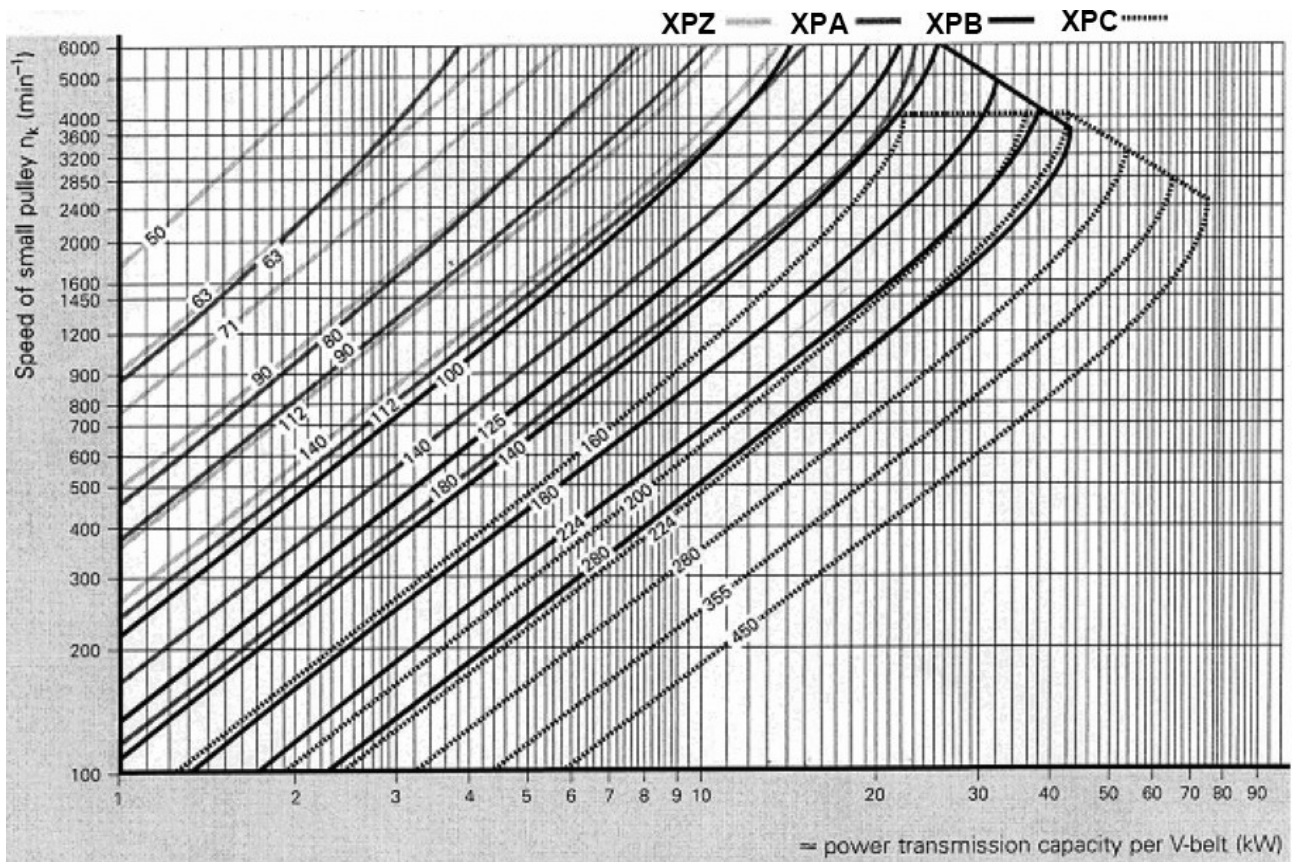
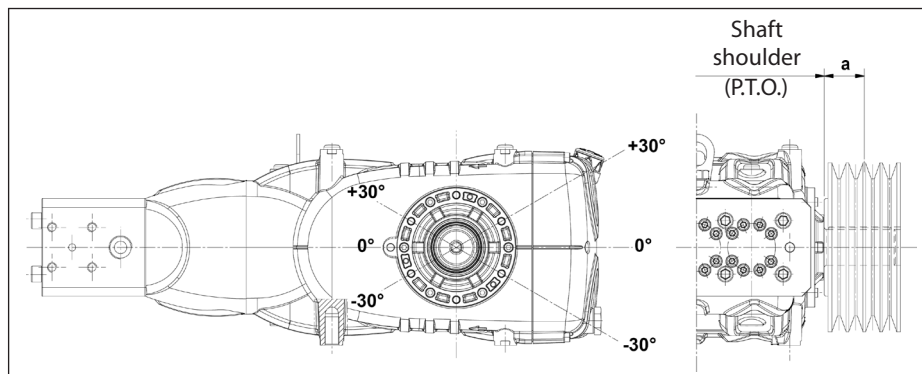

Fig. 9
Fig. 12
For this pump model, we recommend use of 4 XPB belts (16.5x13 serrated). Use an XPC profile only for long durations. Both the characteristics and transmissible power of each belt can be verified in the diagram in Fig. 9, in relation to the number of rpm normally declared by the manufacturer. Minimum duct pulley diameter (on pump shaft):  $\geq 250$  mm. The radial load on the shaft must not exceed 7500 N (value necessary for Layout definition). The transmission is considered adequate if the load is applied to a maximum distance **a = 40 mm** from the shaft shoulder (P.T.O) as shown in Fig. 12.
- b) Use high performance belts – for example **XPB** instead of **SPB** – as a lower quantity of belts for the same transmitted power may be necessary and a consequent shorter resulting distance compared to the shaft shoulder (P.T.O) “a” of Fig. 12.
- e) Follow the direction of the belt pull as shown in Fig. 12 for other needs, contact our **Technical** or **Customer Service Departments**.